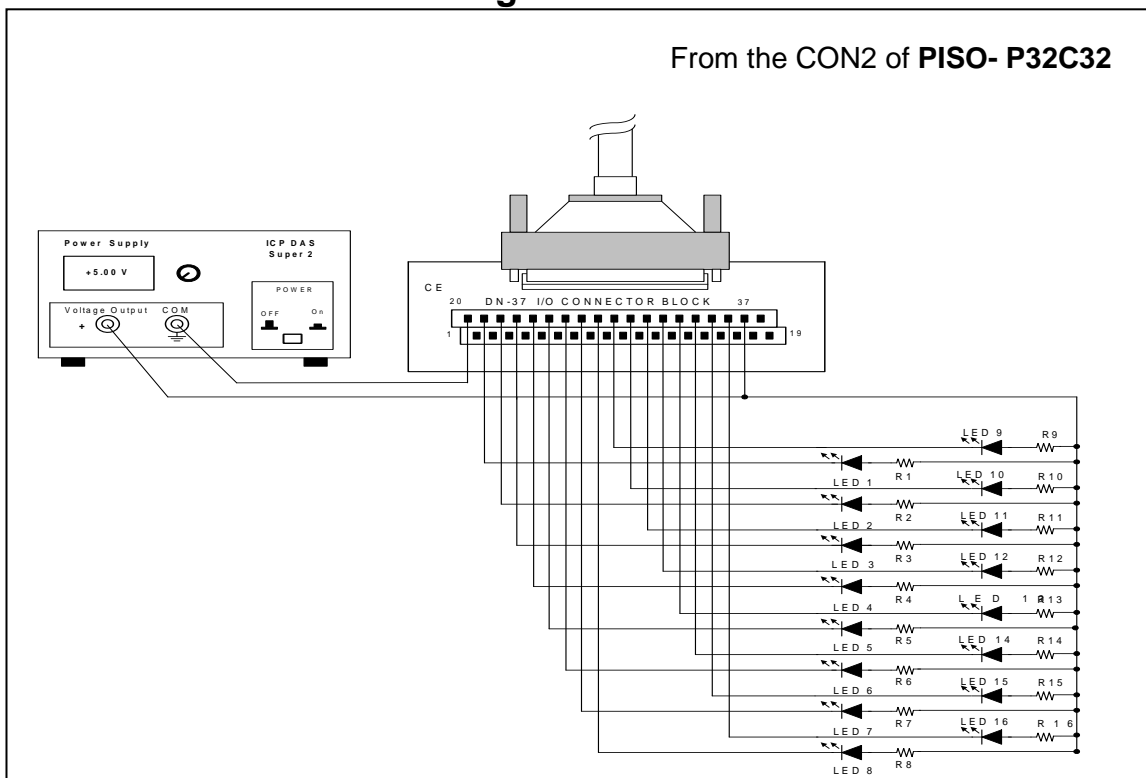

Figure 4-1-4. The circuit diagram of external device 2 for the digital outputs of PISO-P32C32/P32C32U(-5V)/P32S32WU
- Figure 4-1-4(PISO-P32C32/P32S32WU) shows the circuit diagram of external device 2